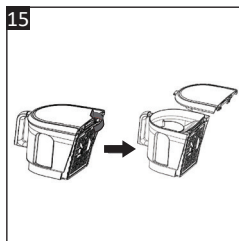

Fig. 15
2. On the back of the dust bin lid, press the lid release button located in the center and pull the button up to remove the lid (**Fig. 15**).